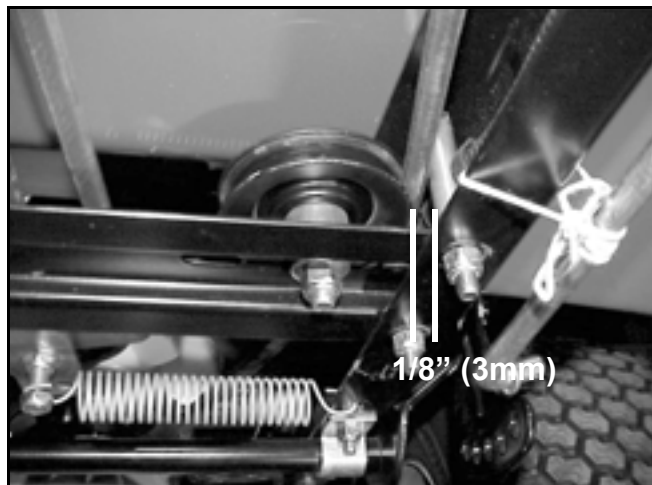

Figure 151
12. On the other side of the idler pivot, is a V-idler pulley. Install the V-section of the belt around the pulley and adjust the pulley up to the two belt guides located on the tractor frame. Adjust the pulley so there is 1/8" (3mm) gap between the pulley and belt guides (Figure 151).